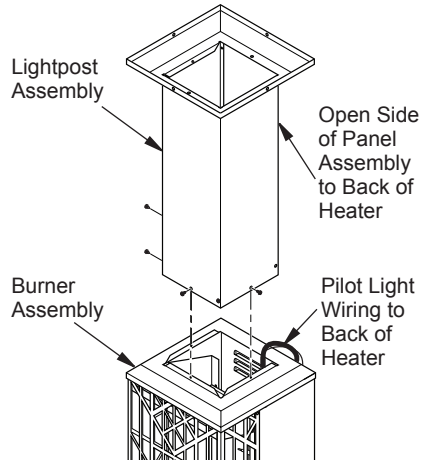

Figure 6 - Connecting Lightpost and Burner Assembly
4. Place lightpost panels and top assembly on top of burner assembly aligning back side of each assembly. See Figure 6. Attach with 3 screws (H).